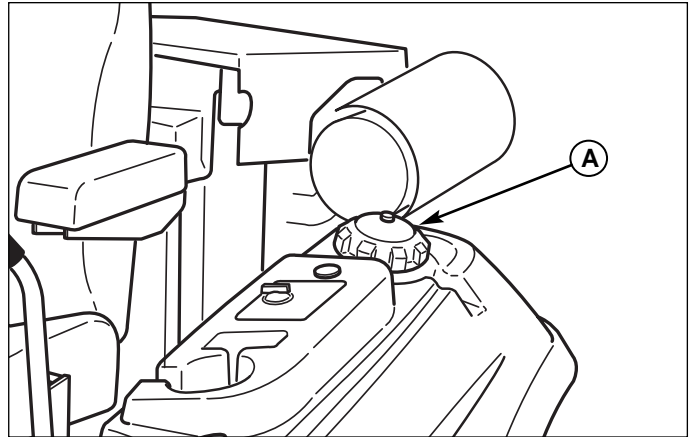

Figure 11. Fuel Tank Fill
1. Remove the fuel cap (A, Figure 11).
1. Remove the fuel cap (see A, Figure 11).